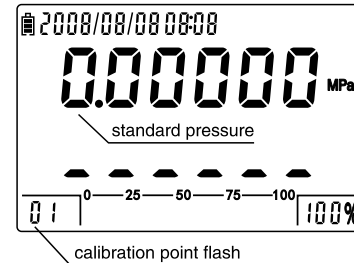
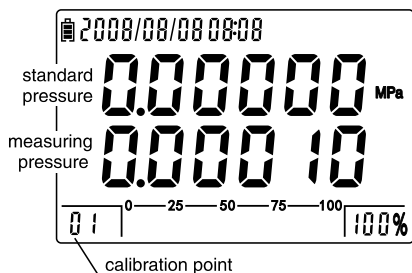
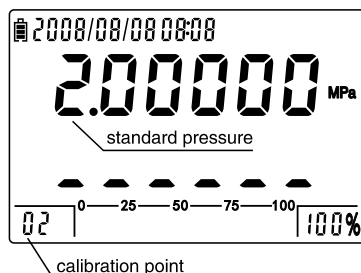
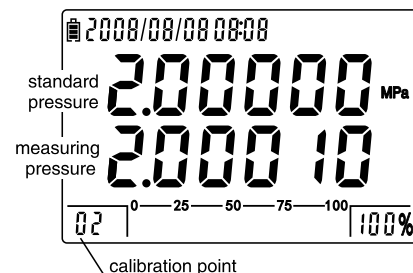

Figure 5-3-1: 1st point entrance
Figure 5-3-2: 1st point calibration
Figure 5-3-3: 2nd point entrance
Figure 5-3-4: 2nd calibration
- (1) Press  to enter into passport menu, input the password "2003" and press  to enter into calibration menu.
- (2) Select **IP\_CAL** and press  to enter into the entrance interface. The **【 01 】** of left reading area is 1st calibration point, the user can select points by using  . Please press  to start calibration. (as figure 5-3-1)
- (3) The first line flashes to remind the user to input the standard pressure of 1st point. (In this example, it is 0.00000 MPa)
- (4) As figure 5-3-2, screen displays the interface of 1st calibration point. Please supply 0.00000 MPa pressure, and press  to finish the 1st point calibration after it is stable. As figure 5-3-3, switch to the 2nd point calibration interface.
- (5) Under the interface of 2nd calibration point, the first line flashes for new standard pressure. In general, it is the default (In this example, it is 2.00000 MPa), press  for next step.
- (6) As figure 5-3-4, screen displays the 2nd point calibration interface. Please supply 2.00000 MPa pressure and press  to finish the 2nd point calibration after it is stable. The screen switches to the interface as figure 5-3-1 and the calibration is finished.
- (7) Press  to return to the calibration function menu. The calibration is effective if **2P\_0** changed to **2P\_1**.